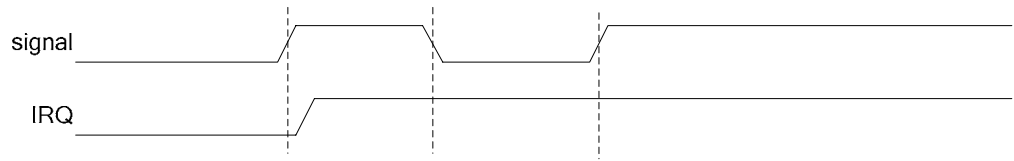
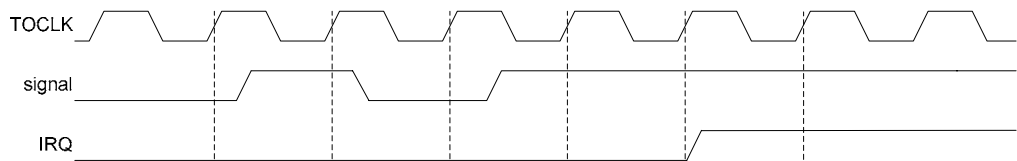
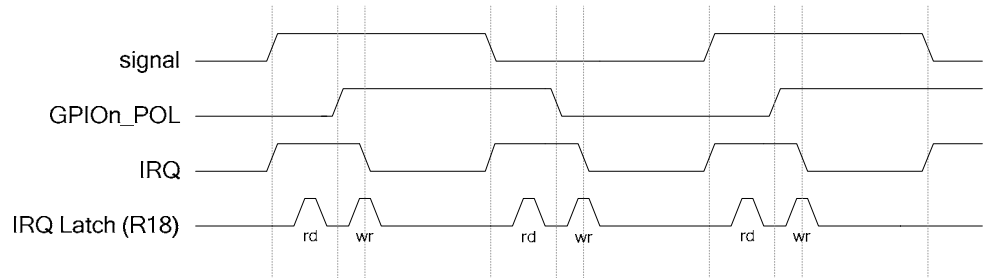

Figure 25 GPIO Latch
Figure 26 GPIO De-bounce
Figure 27 GPIO Edge Detect
Three typical scenarios are presented in the following Figure 25, Figure 26 and Figure 27. The examples are:
- Latch a GPIO input (Figure 25)
- Debounce and latch a GPIO input (Figure 26)
- Use the GPIO_n_POL bit to implement an IRQ edge detect function (Figure 27)